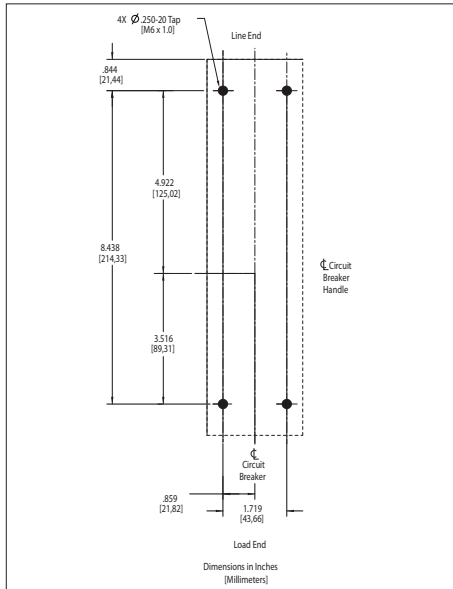
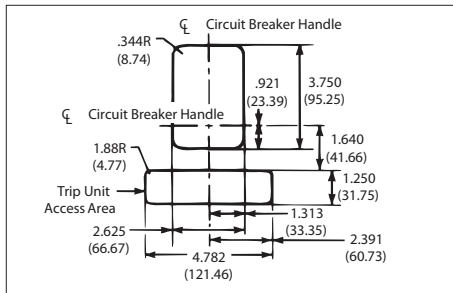

Figure 5. Circuit Breaker Mounting Bolt Drilling Plans.
Figure 6. Circuit Breaker Escutcheon Dimensions for 3-Pole Circuit Breakers.
- a. For individual surface mounting, drill mounting panel using the drilling plan shown in Figure 5. For panelboard mounting, only load end support mounting holes are required. For deadfront cover applications, cut out cover to correct escutcheon dimensions (see Figure 6).